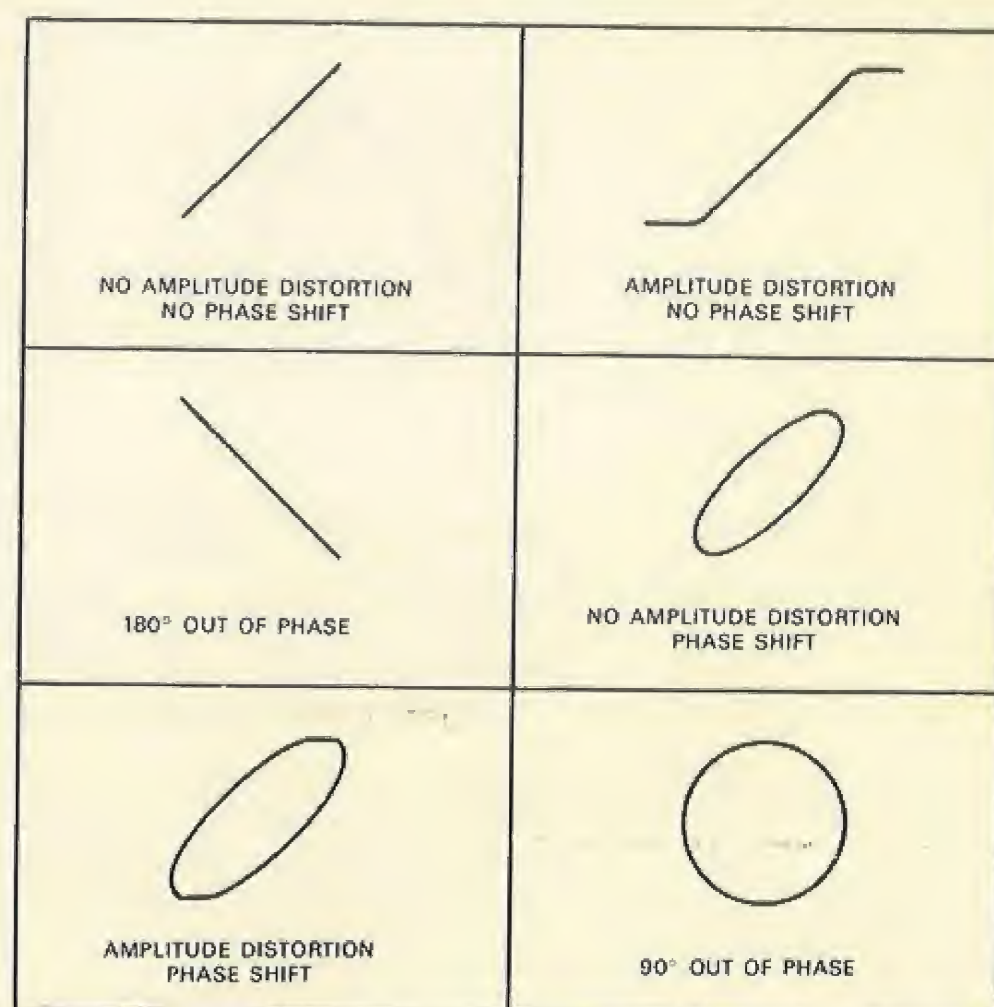
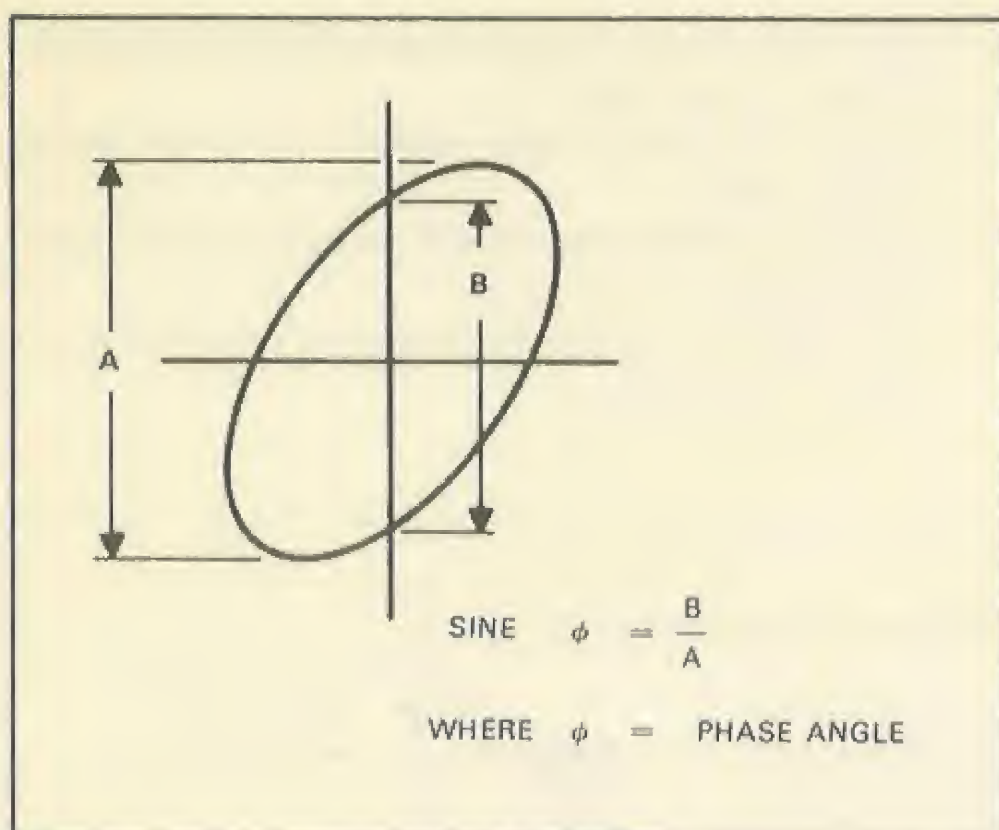

Fig. 9 Typical phase measurement oscilloscope displays
Fig. 10 Phase shift calculation
7. Some typical results are shown in Fig. 9. If the two signals are in phase, the oscilloscope trace is a straight line. If the vertical and horizontal gain are properly adjusted, this line is at 45° angle. A 90° phase shift produces a circular oscilloscope pattern. Phase shift of less (or more) than 90° produces an elliptical Lissajous' pattern. The amount of phase shift can be calculated by the method shown in Fig. 10.